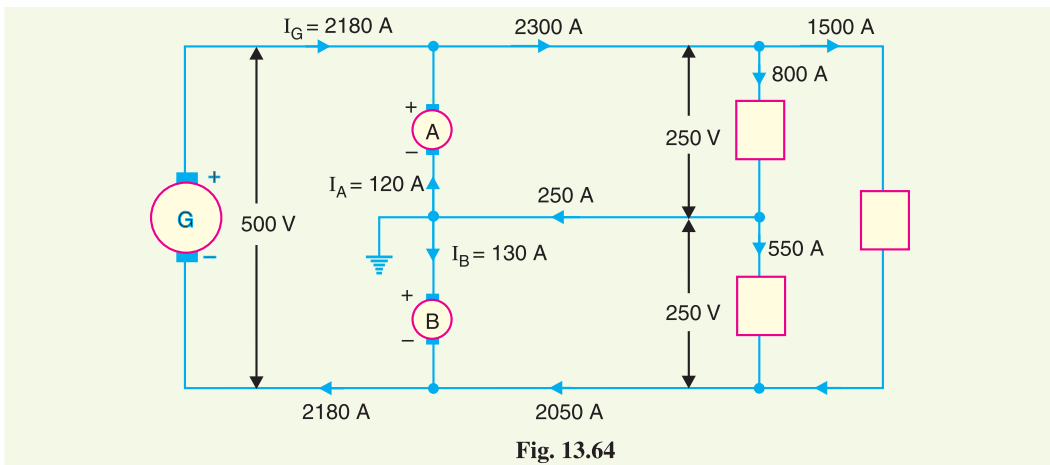

Fig. 13.64
**Solution.** The connections are shown in Fig. 13.64. As the positive side is more heavily loaded, therefore, machine  $A$  acts as a generator and machine  $B$  as a motor.